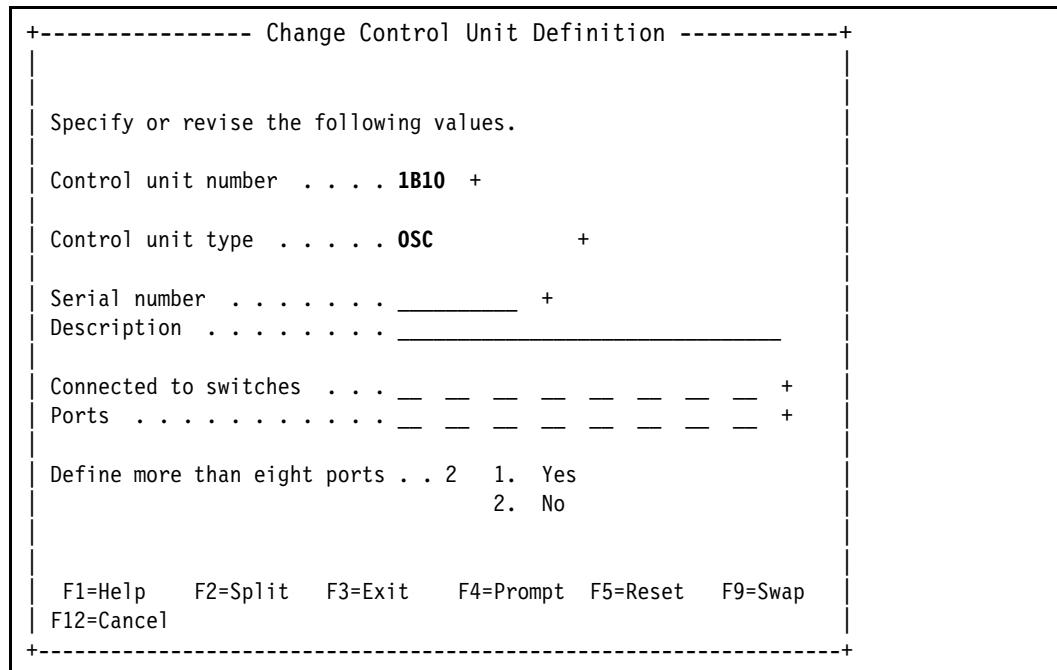

Figure 13-4 Control units: Change Control Unit Definition, OSC
4. Make any changes to the Control Unit definition that you want (Figure 13-4), and press **Enter**.